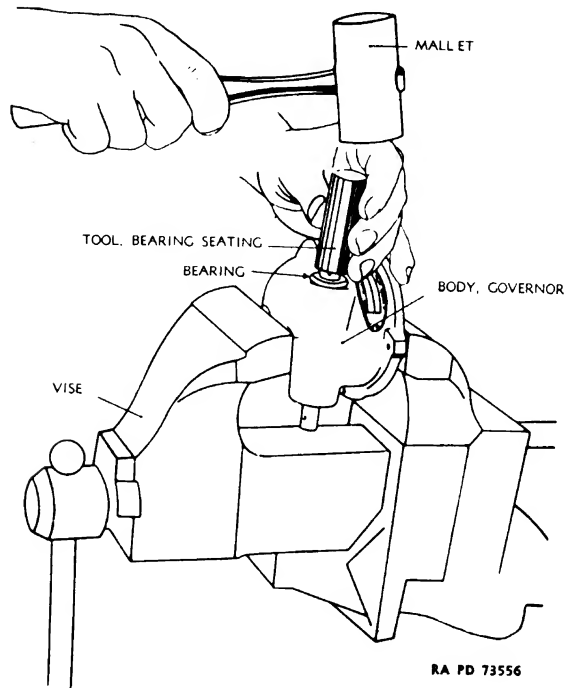

Figure 113 – Seating Bearings
(1) Put snap rings on rocker shaft. Install shaft in body without bearings, with the long end of the shaft toward the adjusting screw side. Install yoke on shaft with cap screws.
(2) Drive bearing on each end of shaft with letter side out. Seat bearings with mallet and governor bearing seating tool (fig. 113). Check rotation of shaft for friction. If bearings are correctly aligned, rocker shaft should be free enough so that the yoke will fall of its own weight.
(3) Tap oil seal into place using governor bearing seating tool and mallet. Oil seal must be seated sufficiently tight to prevent leakage, but should not be hammered down against the bearing, as this will place excessive friction on the rocker shaft.